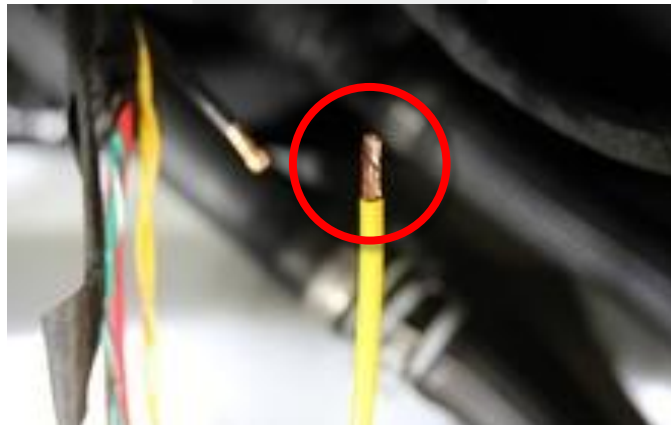

Figure 38
12. Strip away approximately 7 mm of insulation from the end of the newly installed wire (Figure 38).